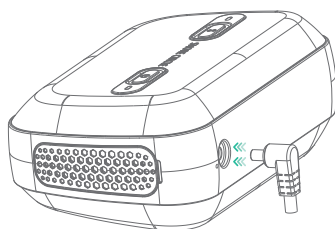

Figure 4-2 Power adapter
- 1) Insert the jack of the power adapter into the inlet on the back of the device, as shown in Figure 4-2.